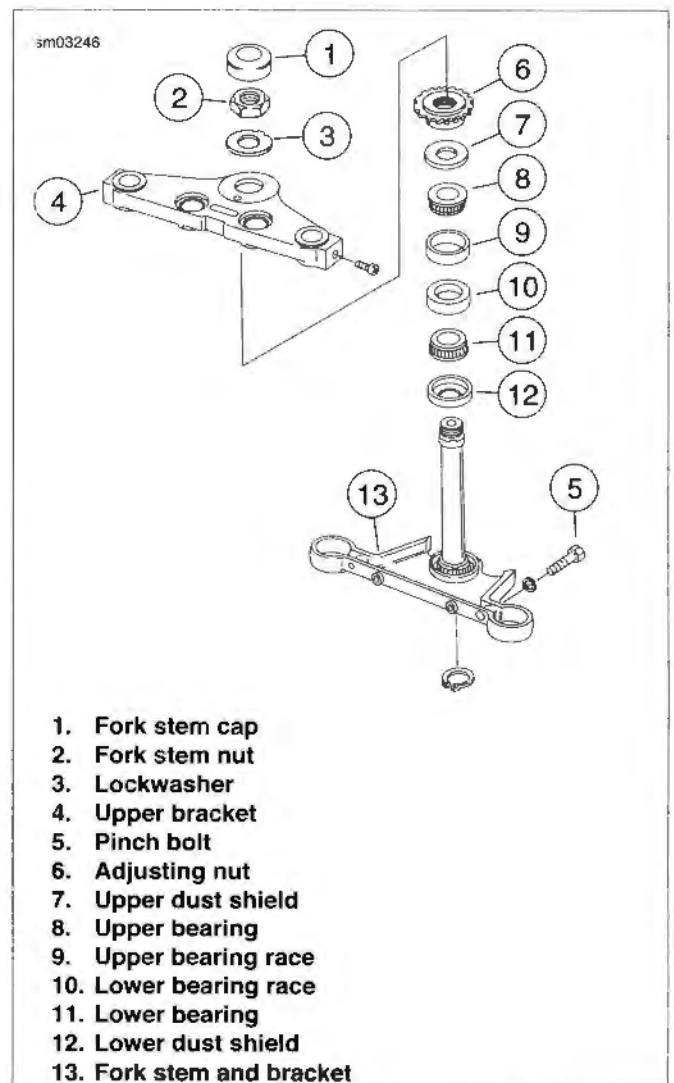

Figure 2-79. Steering Head: FXST/FXSTC
3. See Figure 2-79. Remove the brake hose bracket from the bottom of the fork stem and bracket (13).
4. Remove the fork stem cap (1). Remove the fork stem nut (2) with the handlebar and upper bracket (4) as an assembly.
5. Remove the adjusting nut (6) and pull the fork stem and bracket (13) out of the steering head.
6. Remove the upper dust shield (7) and upper bearing (8) from steering head.
1. See Figure 2-79. Insert the fork stem bracket assembly (13) (with lower dust shield and bearing) into the frame steering head and install the upper bearing (8) and dust shield (7). Secure with the adjusting nut (6).
2. Install the upper bracket (4), a **new** lockwasher (3), and fork stem nut (2). Be sure pin on lockwasher is engaged in upper bracket hole.